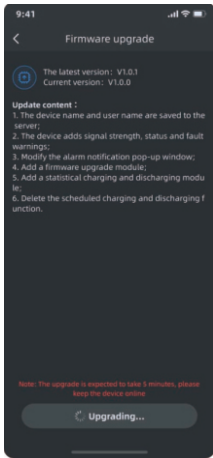

Figure 5
- 5)Figure 5: The upgrade progress is displayed. Keep the device online during the upgrade. The page closes automatically after a successful upgrade. If the upgrade fails, retry according to the prompt.